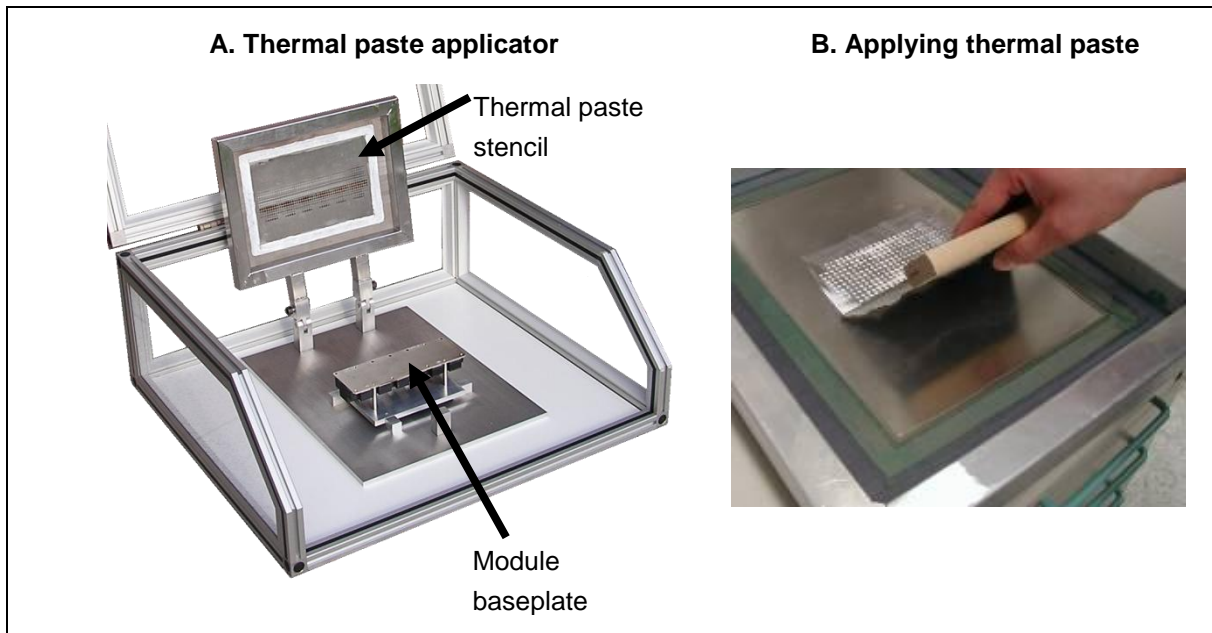

Fig. 8: A. Example of an applicator jig to spread thermal paste in a screen printing process, detailing a module baseplate.
2. Align stencil and module. Perhaps with a jig holding the module as shown in Figure 8.A.